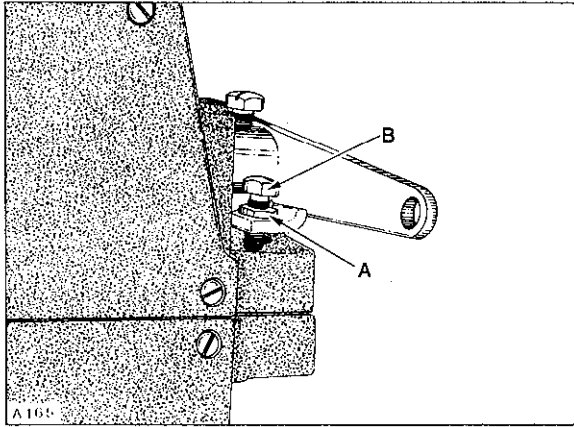
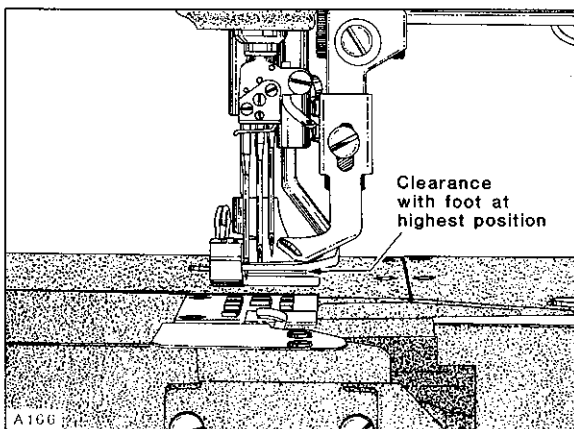

Fig. 35
Fig. 36
Loosen lock nut (A, Fig. 35) and adjust screw (B) in presser foot lifter lever, allowing presser foot to be raised to its highest position without interfering with spreader, as shown in Figure 36. Lock nut (A, Fig. 35) securely.